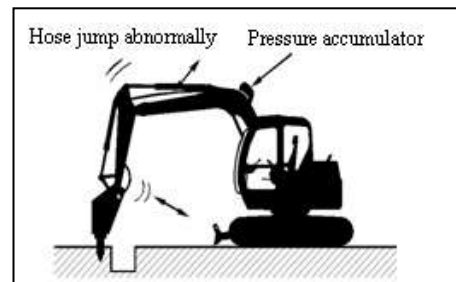

Figure 3.8.4
- (6) If hydraulic breaker hose jumps abnormally, stop operation immediately. The pressure change of breaker accumulator or damaged accumulator will cause unusual hose jump, and damage hydraulic breaker or machine (As figure 3.8.4).